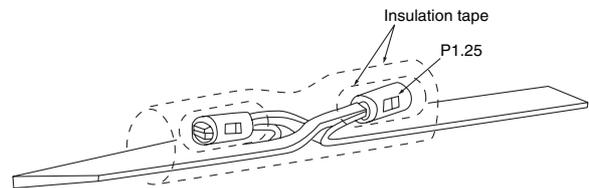

Figure 6
- (d) Wrap each connection with insulation tape, then bend the connected sections in opposite directions as shown in *Figure 6*. Wrap the whole section with insulation tape for protection (see *Figure 6*).